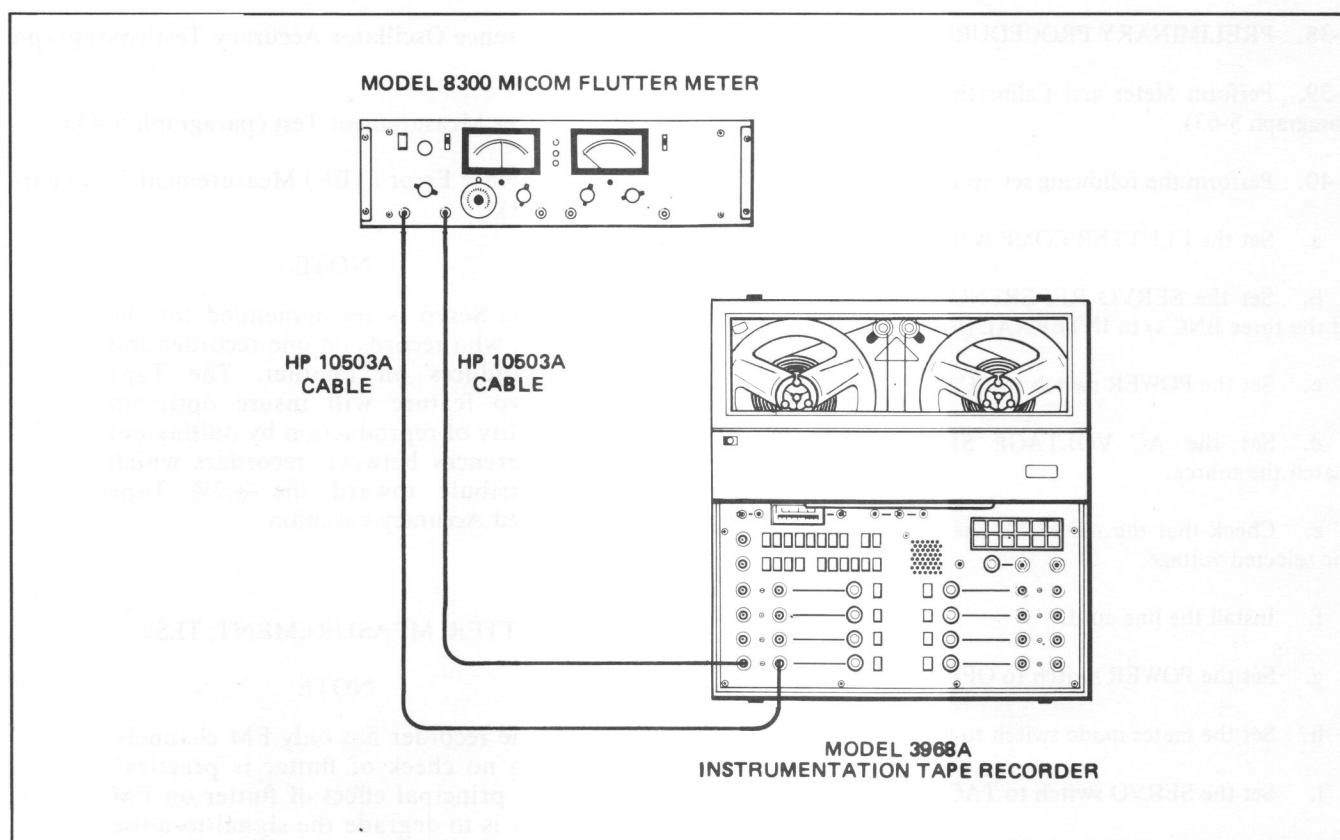

Figure 5-3. Flutter Test Setup
- a. Connect the flutter meter TEST FREQUENCY OUTPUT to the INPUT jack of the selected Direct PCA (see Figure 5-3).